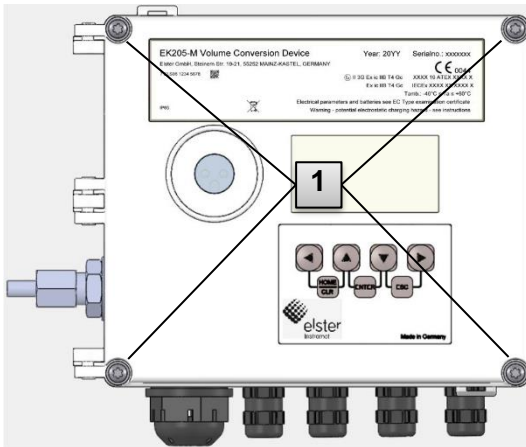

Fig. 40
1. Loosen the four housing screws (Fig. 40: **1**).
8. Close the housing using the intended screws (Fig. 40: **1**).